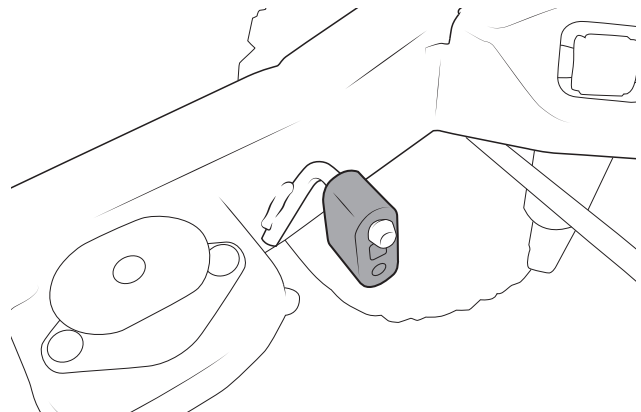

Figure 31
- b. Install the supplied isolators onto the frame (fig 31).